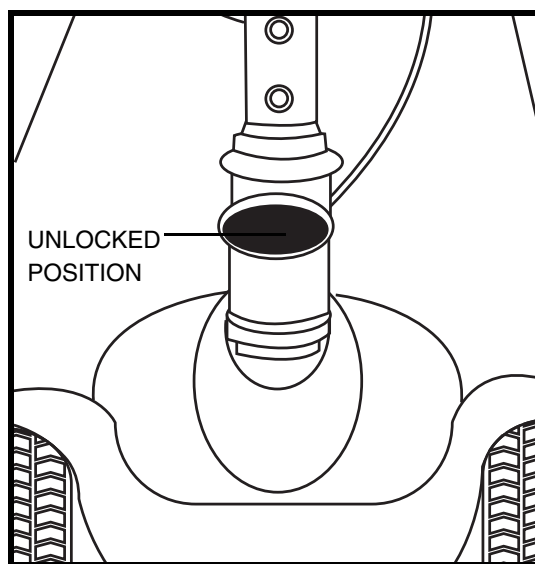

Figure 22. Tiller Lock Knob (Unlocked)
6. Unlock the front wheel by turning the tiller lock knob 90° anticlockwise. **See figure 22.**